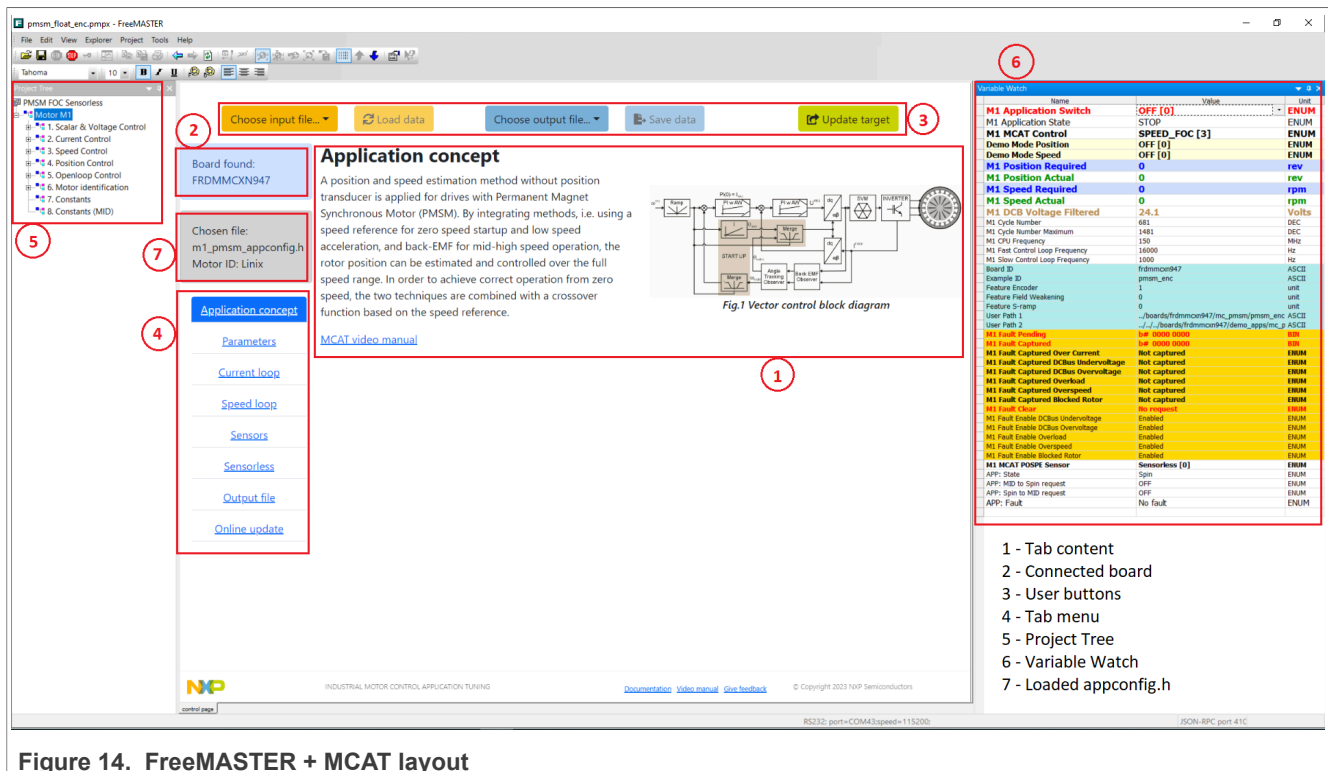

Figure 14. FreeMASTER + MCAT layout
The PMSM sensor/sensorless FOC application can be easily controlled and tuned using the Motor Control Application Tuning \(MCAT\) plug-in for PMSM. The MCAT for PMSM is a user-friendly page, which runs within the FreeMASTER. The tool consists of the tab menu and workspace as shown in Figure 14. Each tab from the tab menu (4) represents one submodule which enables tuning or controlling different application aspects. Besides the MCAT page for PMSM, several scopes, recorders, and variables in the project tree (5) are predefined in the FreeMASTER project file to further the motor parameter tuning and debugging simplify.